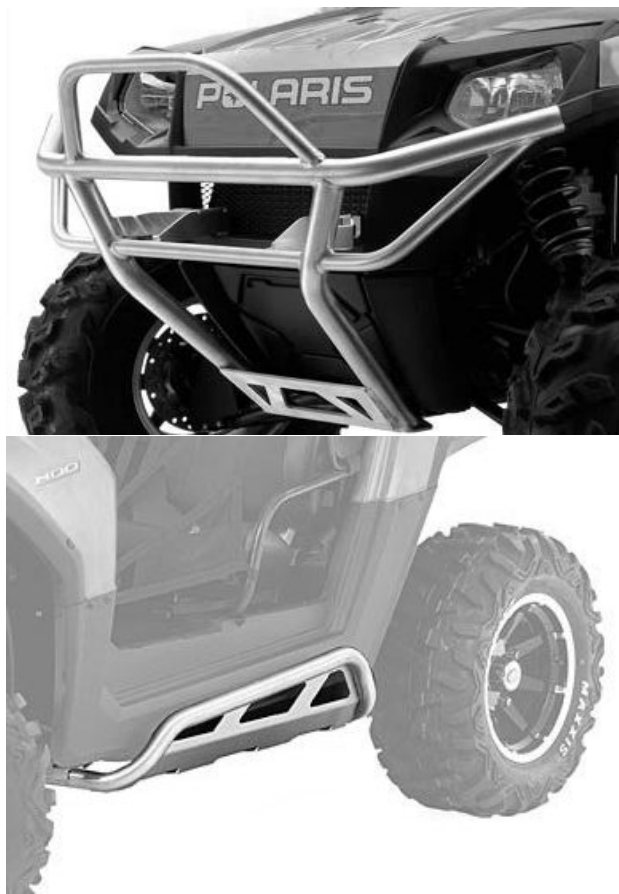

Fig. 29
4. If needed, front bumpers and side guards should be removed - on vehicles equipped with these options - to prevent interference between the accessories and the Track Systems. See Fig. 29